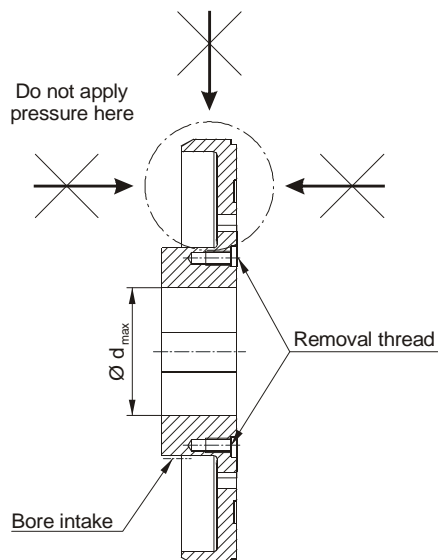

Fig. 2
## Boring the Rotor Hub (Fig. 2)
The rotor (3) must not be bent during boring. Do not place pressure on the outer, thin-walled rotor area, see Fig. 2.
- Do not place pressure on the outer area of the rotor (3) (Fig. 2).
## Rotor De-installation (Fig. 2 / Page 6)